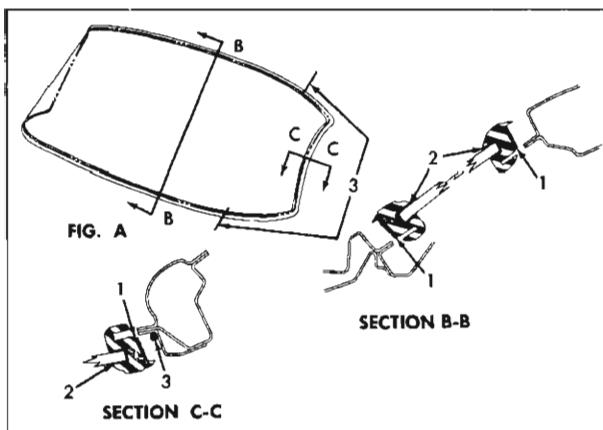

Fig. 11-12 Windshield Sealing
5. Apply a ribbon of medium-bodied sealer completely around base of rubber channel as indicated by 1 (Fig. 11-12).
6. Apply a bead of medium-bodied sealer, approximately $\frac{1}{4}$ " in diameter to corner of windshield opening rabbet around each side of windshield for distance indicated by 3 (Fig. 11-12).
9. Using a pressure type applicator, seal inner and outer lips of rubber channel to glass as indicated by 2 in (Fig. 11-12) with an approved weatherstrip adhesive. Seals are to extend completely around rubber channel.
7. Using a pressure type applicator, seal inner and outer lips of rubber channel to glass with an approved weatherstrip adhesive #2 (Fig. 11-12).